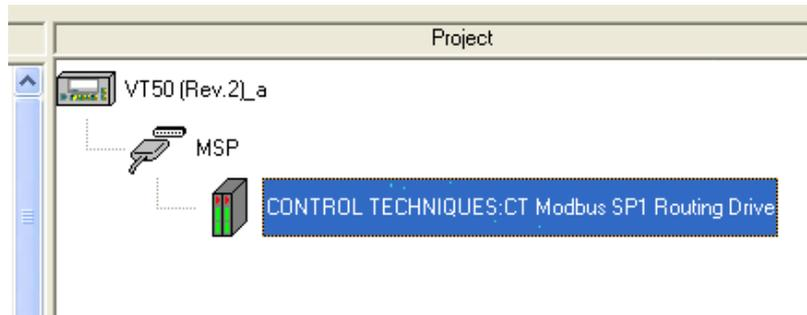

Fig.6.
3.5 In order to better understand the “routing capability” within this article, it makes sense to rename the “*CT Modbus_a*” protocol already created as “CT Modbus SP1 Routing drive” for example. To do this, right-click with the mouse and choose the Rename option. The result is shown in Fig. 6